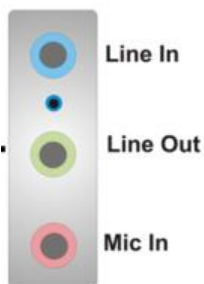

Figure 4-30: Audio jack Connector Location
- CN Location:** See Figure 4-30